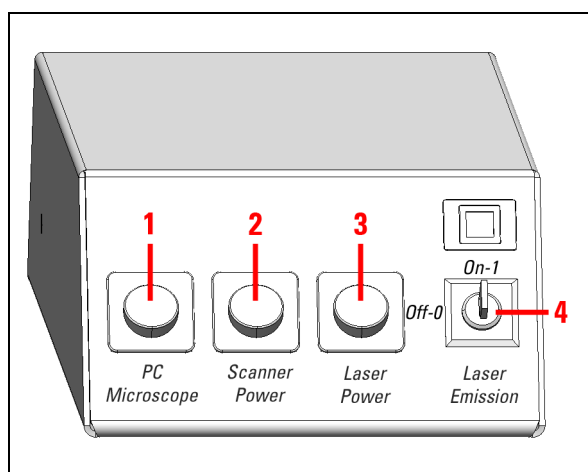

Figure 93: **Overview of the main switch board on the flexible supply unit**
5. Turn off the lasers in the supply unit with the key switch on the main switch board of the flexible supply unit (see **Figure 93, item 4**).
14. Switch off the lasers (see **Figure 93, item 3**), the scan head (see **Figure 93, item 2**), the workstation and the microscope (see **Figure 93, item 1**) on the flexible supply unit's main switch board.